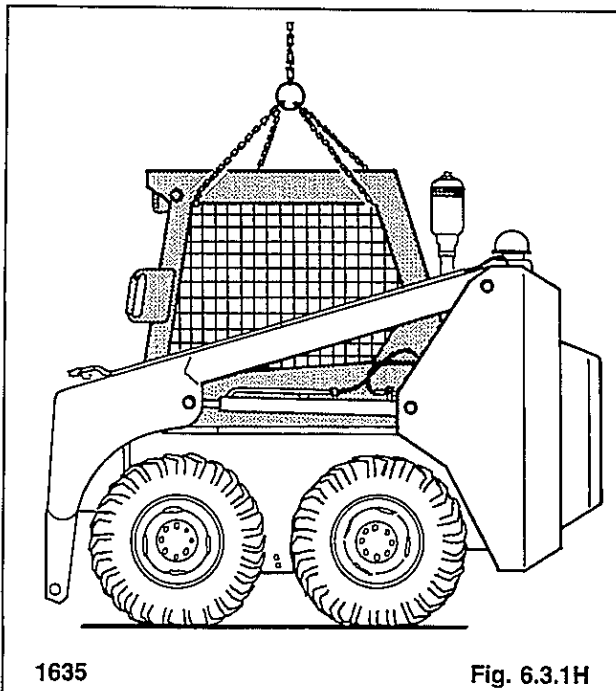

Fig. 6.3.1H
10. Attach chains and a chain hoist to the ROPS as shown in Fig. 6.3.1H. Remove the ROPS from the loader.